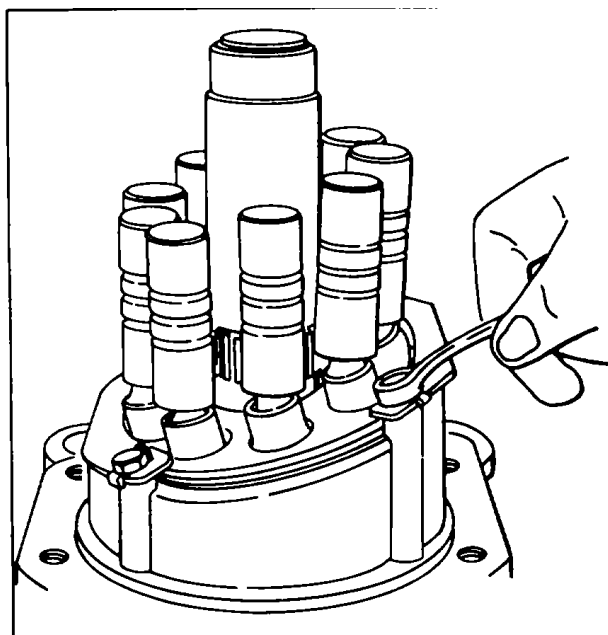

Figure 201.
9. From the high side of the cam, remove two hex bolts (27), two tab lock washers (21), one clip (26), one bearing plate (25), and two spacers (22). See Fig 201.